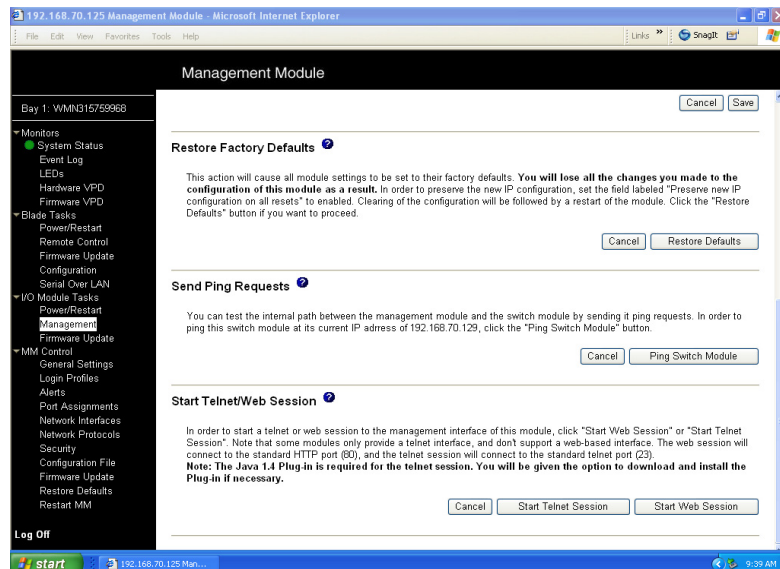

Figure 15. Switch Management window - advanced.
- Scroll down and click **Advanced Switch Management**. A window similar to the one in Figure 15 opens.